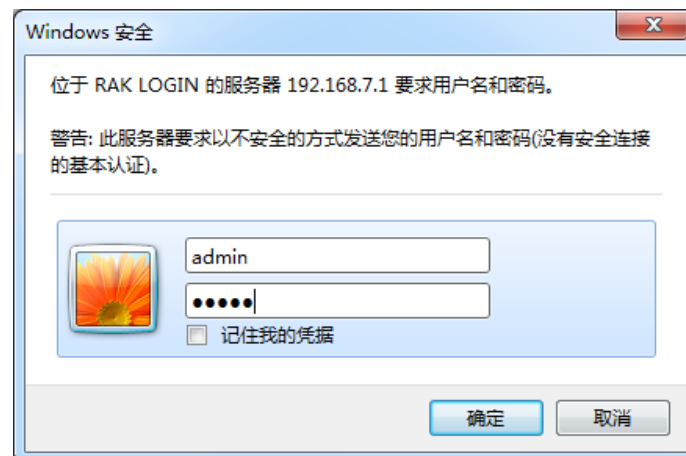

Figure 1-2: WEB Authentication
2. Double click to join this network (the **Link indicator** will light up). Once its IP address is successfully assigned, open the browser and enter the module's gateway address **192.168.7.1**. In the pop-up authentication interface, enter the default **username: admin** and **password: admin**. As shown in Figure 1-2: